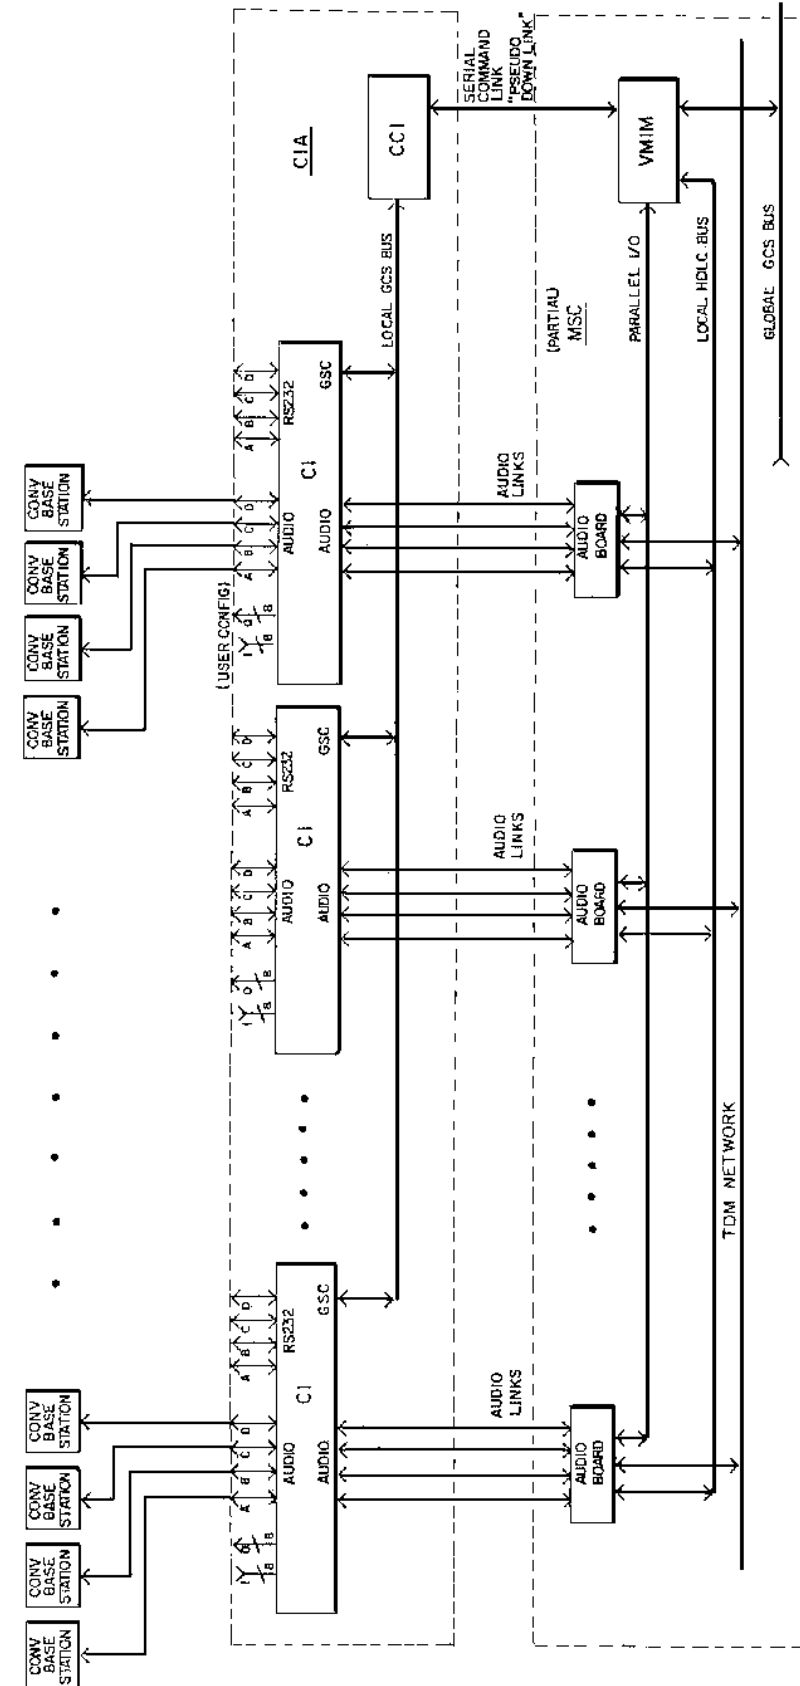

Figure 1 - Conventional Base Station Interface Block Diagram
When the Conventional Base Station Interface is used, the IMC is equipped with a conVentional Multisite Interface Module (**VMIM**) (refer to Figure 1). Figure 1 is a detailed Block Diagram showing a single node of a Conventional Interface Adaptor (CIA) and a ConVentional MultiSite Interface Module (**VMIM**). The VMIM module is a standard IMC controller module. Each VMIM can couple thirty two (32) conventional stations to the trunked system using up to eight (8) audio boards.